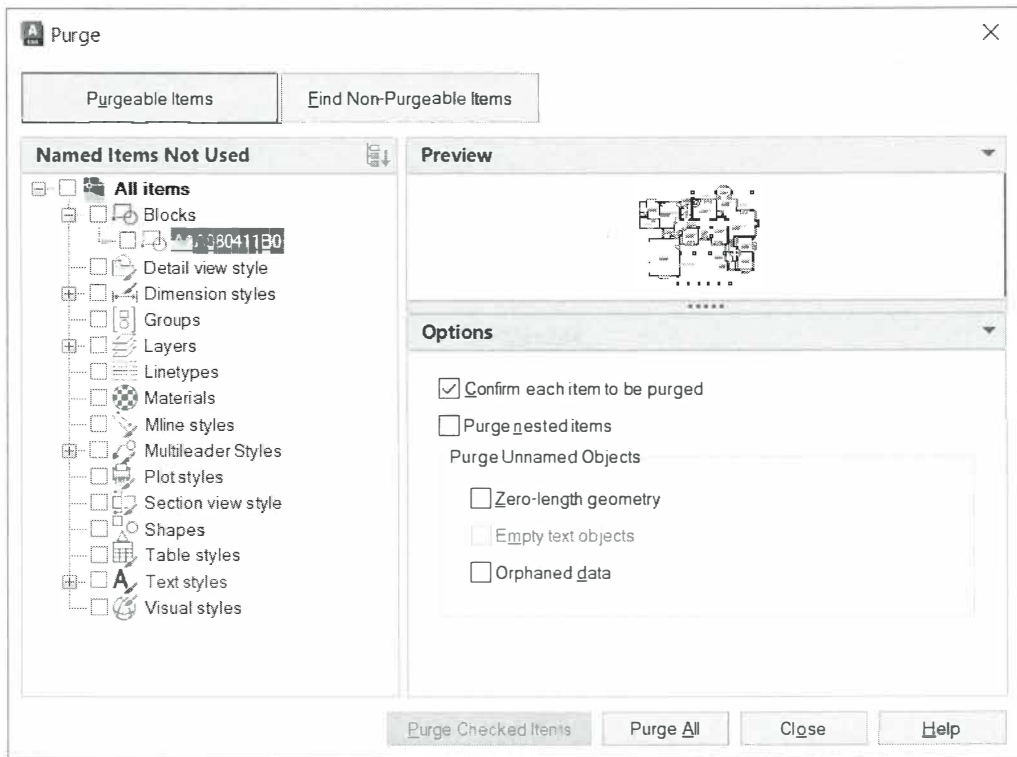

Figure 5–14
2. In the Purge dialog box, in the *Named Items Not Used* area, select the category of the item that you want to purge (such as *Blocks*, *Layers*, etc.). You can also expand the list for any category and select individual items to purge, as shown in Figure 5–14. The *Preview* area displays the image of the item to be purged.